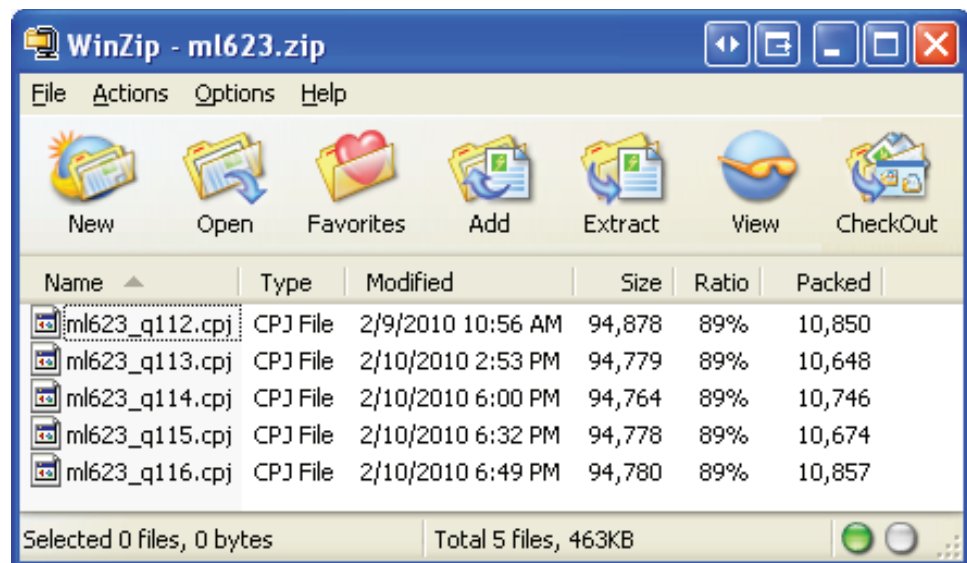

Figure 1-1: ChipScope Project Files Included in the ml623.zip File
2. Locate the file ml623.zip on the Compact Flash memory card. The ZIP file content is similar to the files shown in Figure 1-1.